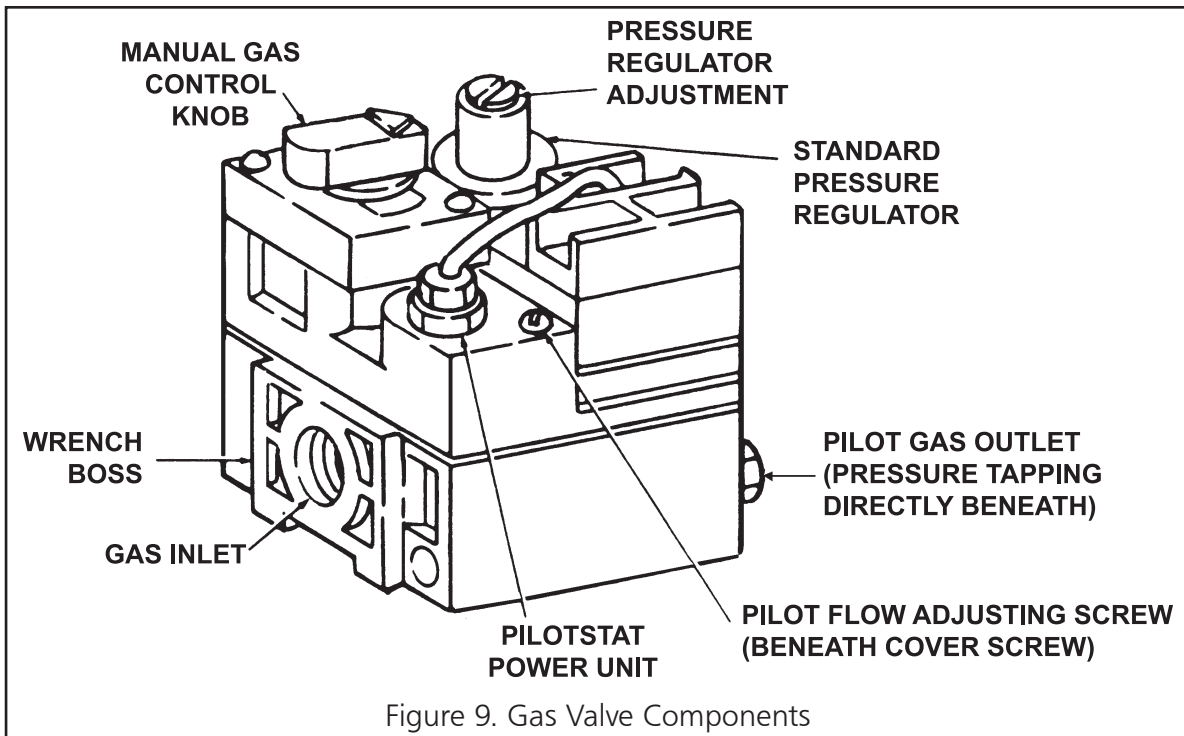

Figure 9. Gas Valve Components
- C. If the manual gas control knob on the gas valve is not in the OFF position, partially depress the knob and rotate to the OFF position. See Figure 9.